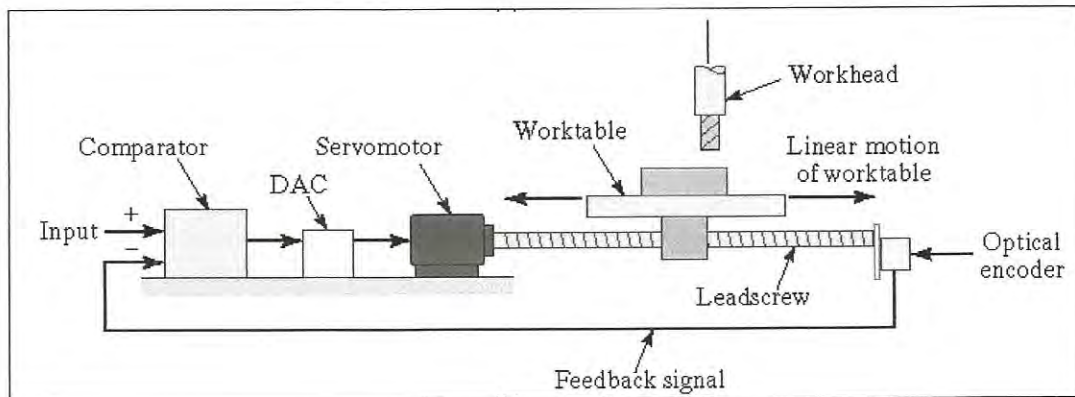

Figure Q2(b)
- (a) The worktable of a positioning system as shown in the **Figure Q2(a)** is driven by a ball screw whose pitch is 25mm. The ball screw is connected to the shaft of a stepper motor through a gearbox. An incremental encoder of 100 pulses/rev is connected to the end of the ball screw. The table must move a distance of 250mm from its present position.